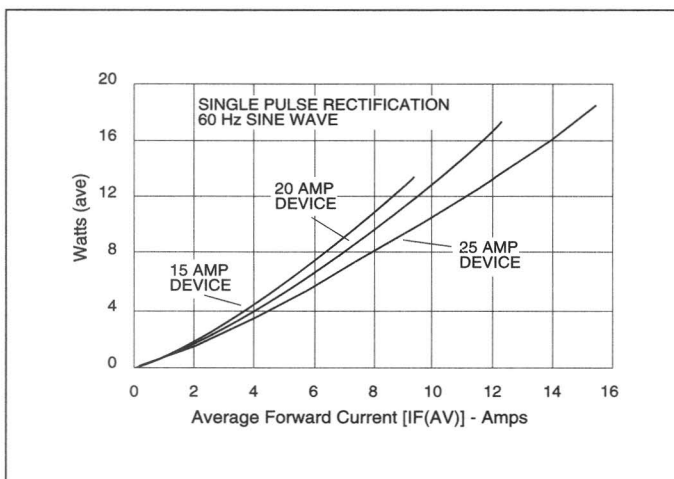

Figure 7.2 Forward Power Dissipation (Typical)
- See Figure 7.2 for current rating at specified case temperature.